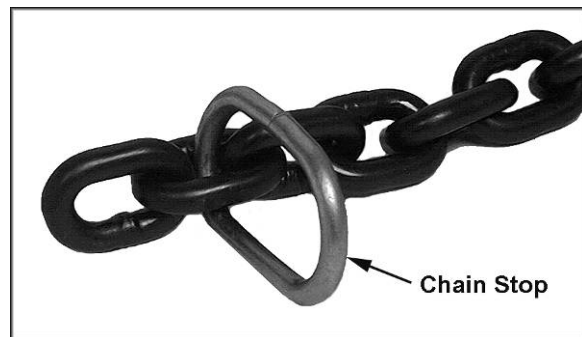

Figure 2
- 1. A chain stop must be attached to the second-to-last link on the slack end of the chain. See Figure 2 for an example.